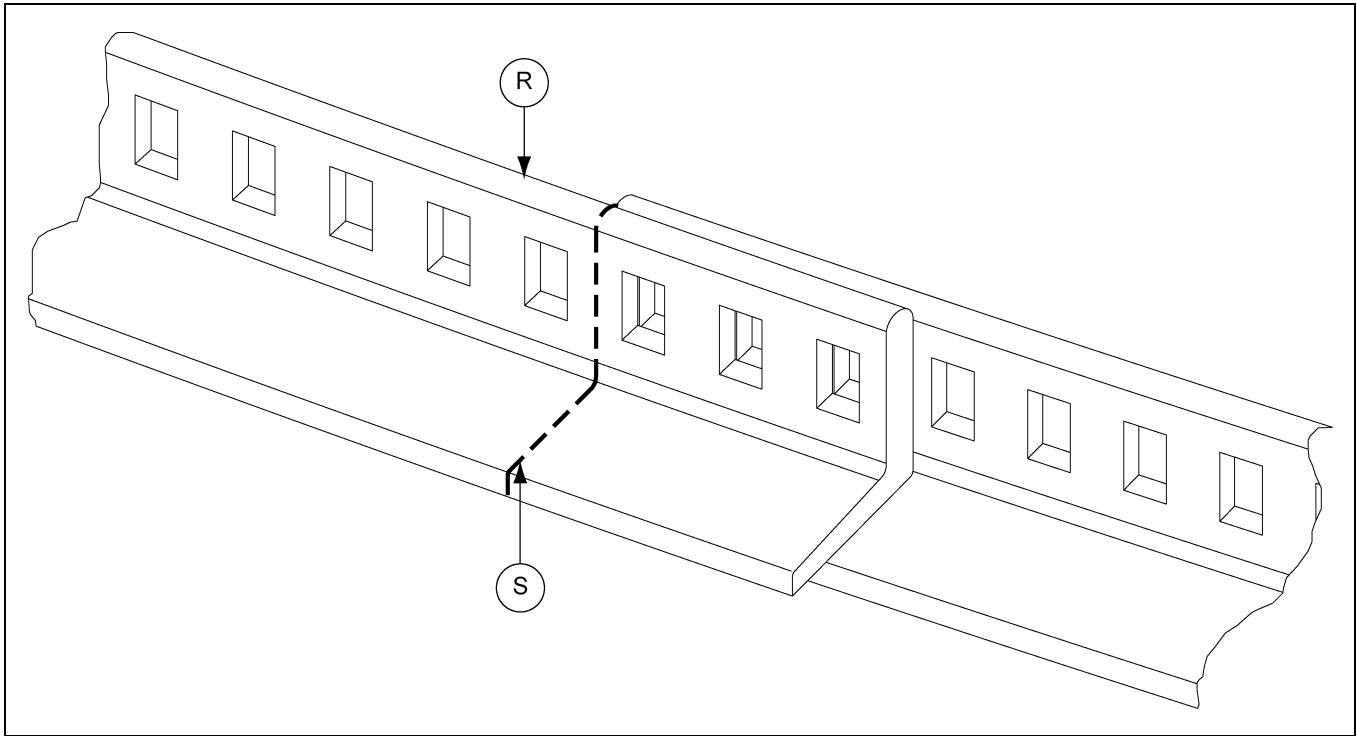

Figure 4D
12. Install the track pitch tool into the squares of the overlapping track sections. Place a reference mark (S) where tracks overlap and cut the last section of track (R). (See Figure 4D.)